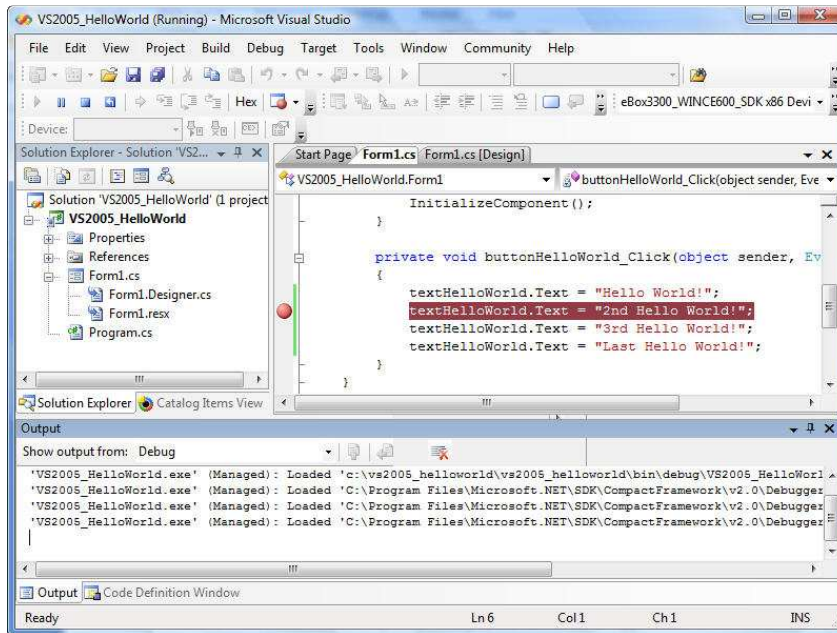

Fig. 46 - Setting breakpoint
- From the VS2005 IDE, navigate to the `buttonHelloWorld_Click` event code segment, click on the following line of code and press the F9 key to set a breakpoint, as shown in Figure 46.